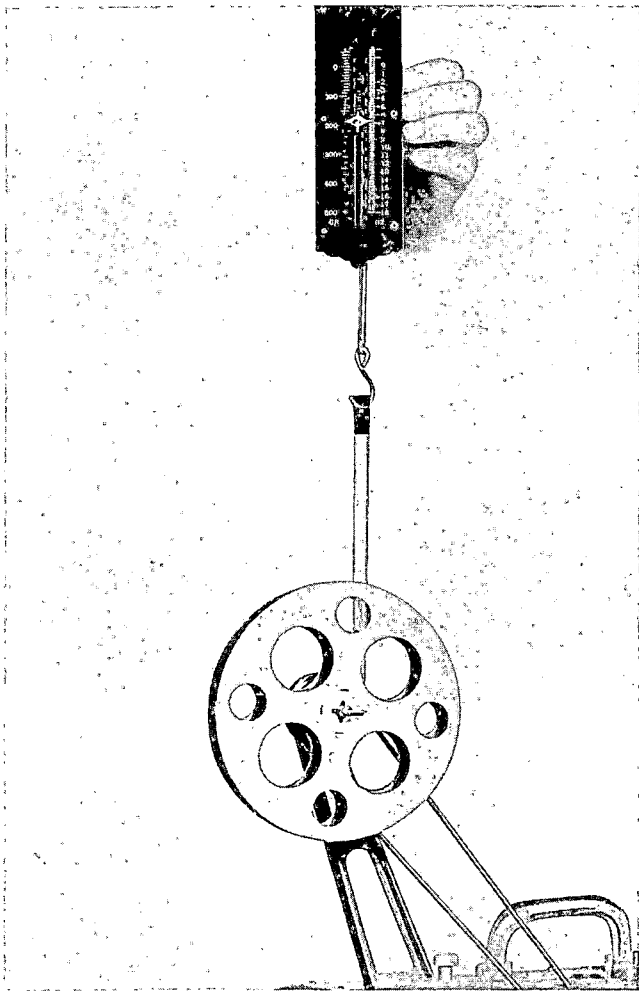

Figure 16. Spring Scale Adjustment for Film Take-up Tension
(See Parts Catalog figure 16.)
c. Loosen set screw in focusing knob, press knob in against its spring washer, and tighten set screw. With lens holder racked all the way into the mounting, attach lens holder stop plate (item 42, Parts Catalog figure 16) with screws (43) and lock washers (44).
d. Install fuseholder (2) and fuse (1).
e. Install special nut (13) and knob (14) on upper end of loopsetter rod. Knob should extend about 3/32-inch above surface of case. Tighten nut up against bottom of knob.
f. Install lampholder (item 3, Parts Catalog fig. 16.)
b. Wrap three feet of 16-mm film around the hub of an empty 400-foot film reel and install reel on take-up arm spindle. Tighten elastic stop nut on end of take-up spindle against the tension nut and attach hook-end of 18-ounce spring scale to end of film as shown in figure 16.
e. Wrap the three-foot length of film around hub of empty 400-foot film reel on take-up spindle and attach hook-end of scale to end of film (figure 16). Tighten or loosen elastic stop nut and tension nut on spindle until reading on scale is 6 to 8 ounces.